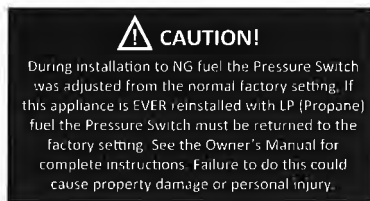

Fig. 32 – Caution Sticker
7. When the Pressure Switch set point is adjusted the appliance may not work properly if the unit is ever reinstalled on LP (Propane fuel). The "CAUTION" sticker (Fig. 32) is supplied in the hardware kit. You must install the "CAUTION" sticker on the appliance above the selector valve cover on the back of the unit prior to completing the installation (Fig. 33).